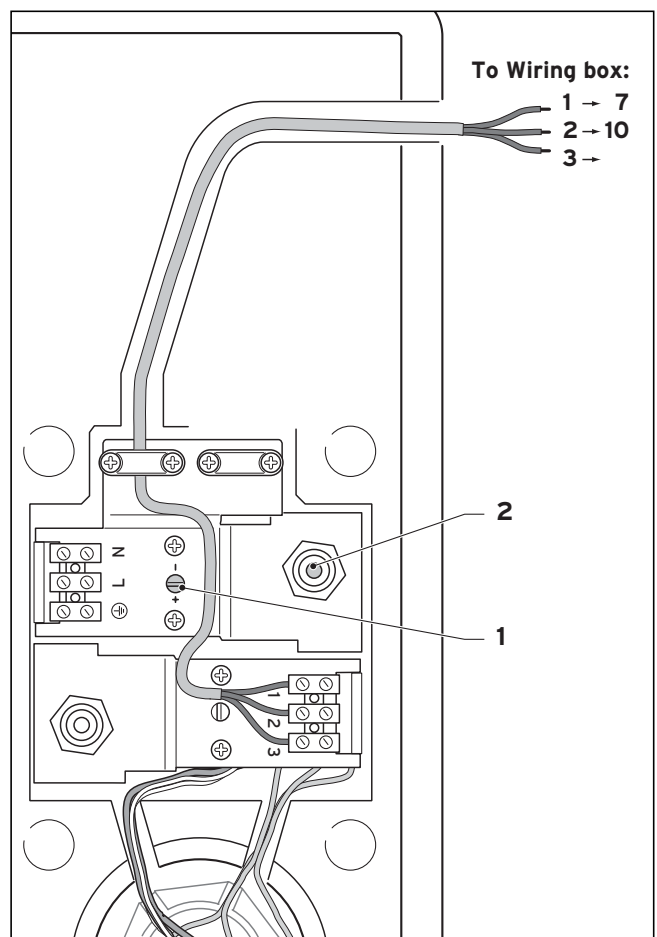

Fig. 10 Electrical Connections to Cylinder Controls
All internal wiring is factory mounted. The thermostat which controls the DHW temperature (1, fig. 10) is adjustable between 20 and 65 °C. The built in safety thermal cut out operates at 90 °C. Should the thermal cut out be brought into operation, the motorized 2 port valve will be operated and shut the primary flow to the cylinder. Press the reset button (2, fig. 10) to reset thermal cut out and motorised valve.
- Connect the uniSTOR cylinder controls to the wiring box as shown in figure 10.